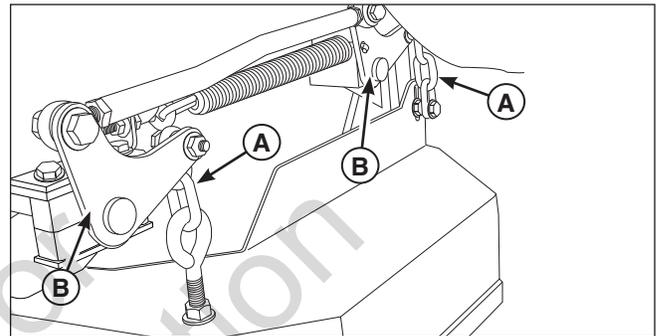

Figure 53. Removing the Hanger Chains
5. Loosen and remove the hardware that secures the top of the hanger chains (**A, Figure 53**) to the deck lift rod pivots (**B**).
6. Install the hanger chains to the deck lift rod pivots as shown in figure 53.